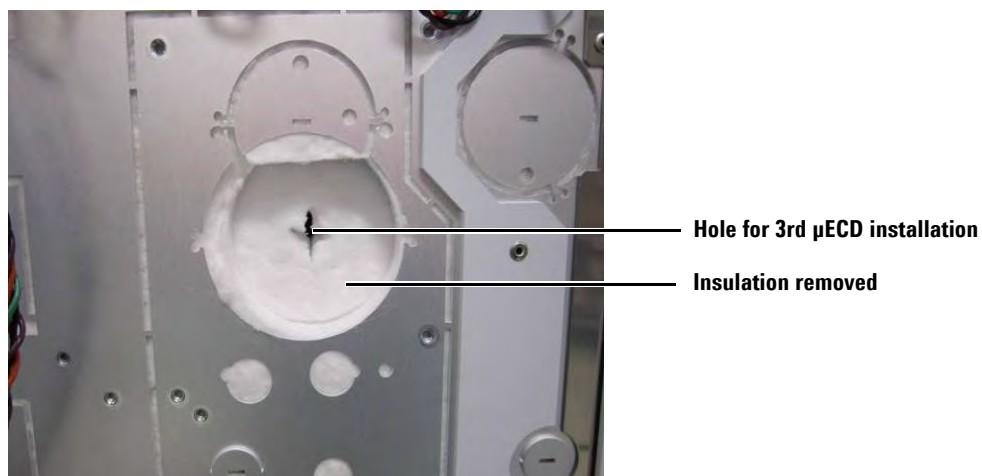

Figure 12 Prepare mounting hole for the μ ECD
- 2 Remove the circular insulation plug and any excess insulation. Use a flat-bladed screwdriver to create a 1/4-inch hole through the oven insulation and into the oven. See Figure 12.